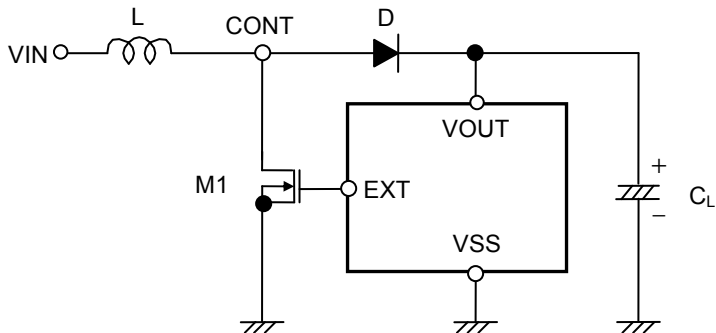

Figure 14 Step-Up Switching Regulator Circuit for Basic Equation
The following are the basic equations [(1) through (7)] of the step-up switching regulator. (Refer to **Figure 14.**)